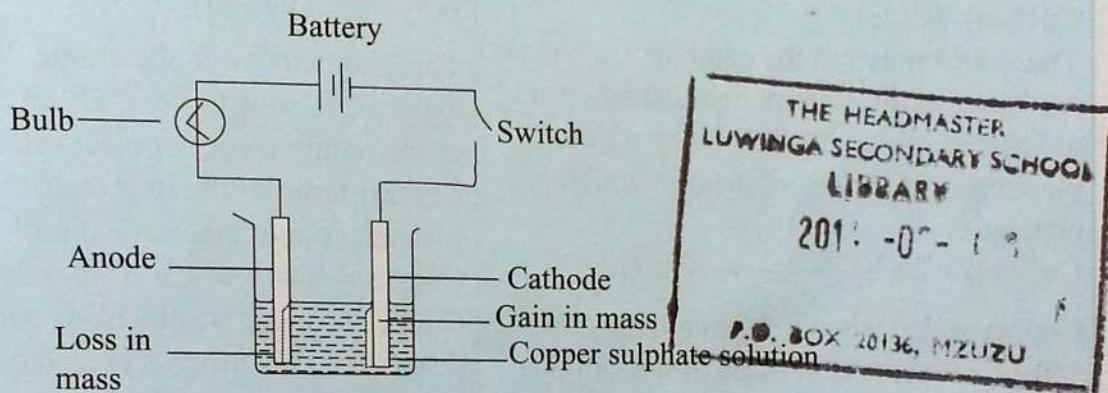

Fig. 4.10: Electrolysis of copper sulphate using copper electrodes
1. Put copper sulphate solution in a beaker then set-up the apparatus as shown in Fig. 4.10 below.